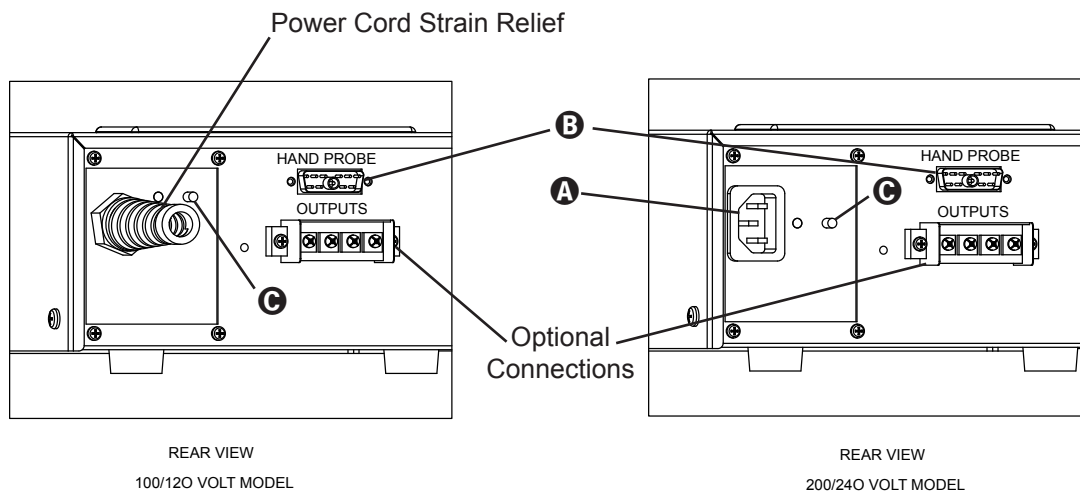

Figure 3-1 Generator Detail - Rear Views
Connect a grounding wire from the grounding stud connection (see Figure 3-1) to the nearest grounded metal pipe or equivalent earth ground.
The chassis grounding stud is used to attach a protective earth ground to the generator. This will aid in the suppression of electrical interference or radio frequency interference (RFI) that is common in a industrial environment. Stud location is shown in Figure 3-1 on the following page.
Step 1. Attach the female end of the power cord (200/240V only) to the generator's power inlet connector - **A** in Figure 3-1.
Step 2. Attach the hand probe's cable connector to the generator's HAND PROBE connection. - **B** in Figure 3-1. Secure the connector to the system using the two jack screws attached to the connector hood.
Step 3. Ground the generator chassis with a user-supplied 14-Gauge wire. Attach one end to the grounding stud - **C** in Figure 3-1. Attach the other end to the nearest grounded metal pipe or equal earth ground.